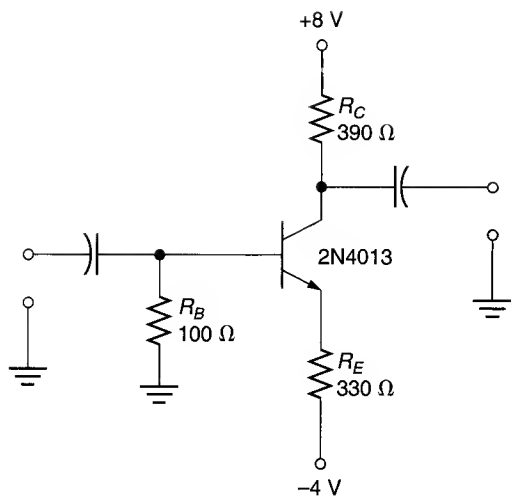

FIGURE 7.45
50. The spec sheet for the transistor in Figure 7.45 is located in Appendix A. Determine the values of I_{CQ} , V_{CEQ} , I_B , V_B , $I_{C(\text{sat})}$, and $V_{CE(\text{off})}$.